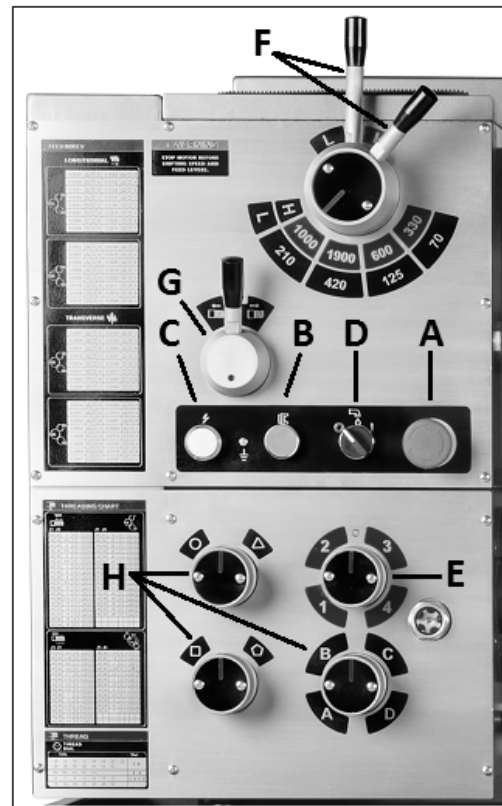

Figure 9-1
1. **Emergency Stop Switch (A, Figure 9-1)** – Press to stop all machine functions. **Caution: lathe will still have power.** To restart machine, rotate button clockwise until it disengages.
2. **Jog Switch (B, Figure 9-1)** – Press and release to advance spindle momentarily.
3. **Power Indicator Light (C, Figure 9-1)** – Illuminated whenever lathe has power.
4. **Coolant On-Off Switch (D, Figure 9-1)** – Turns coolant pump on and off.
5. **Feed Rod/Leadscrew Selector (E, Figure 9-1)** – Use knob to activate leadscrew and feed rod.
6. **Speed Selector Levers (F, Figure 9-1)** – Use to select spindle speeds in ranges.
7. **Feed Direction Selector (G, Figure 9-1)** – Selects carriage travel direction when chuck is rotating in forward direction (or counter-clockwise as viewed from front of chuck).
8. **Feed Rate Selector (H, Figure 9-1)** – Use knobs to set desired feed, or lead rates.